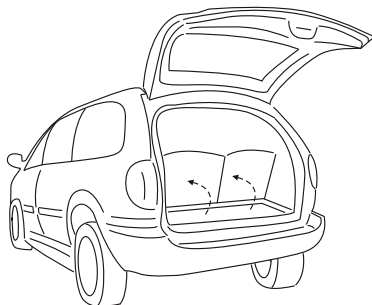

Figure 4-25
2. Fold third row seating up, exposing the storage well. *See Figure 4-25.*